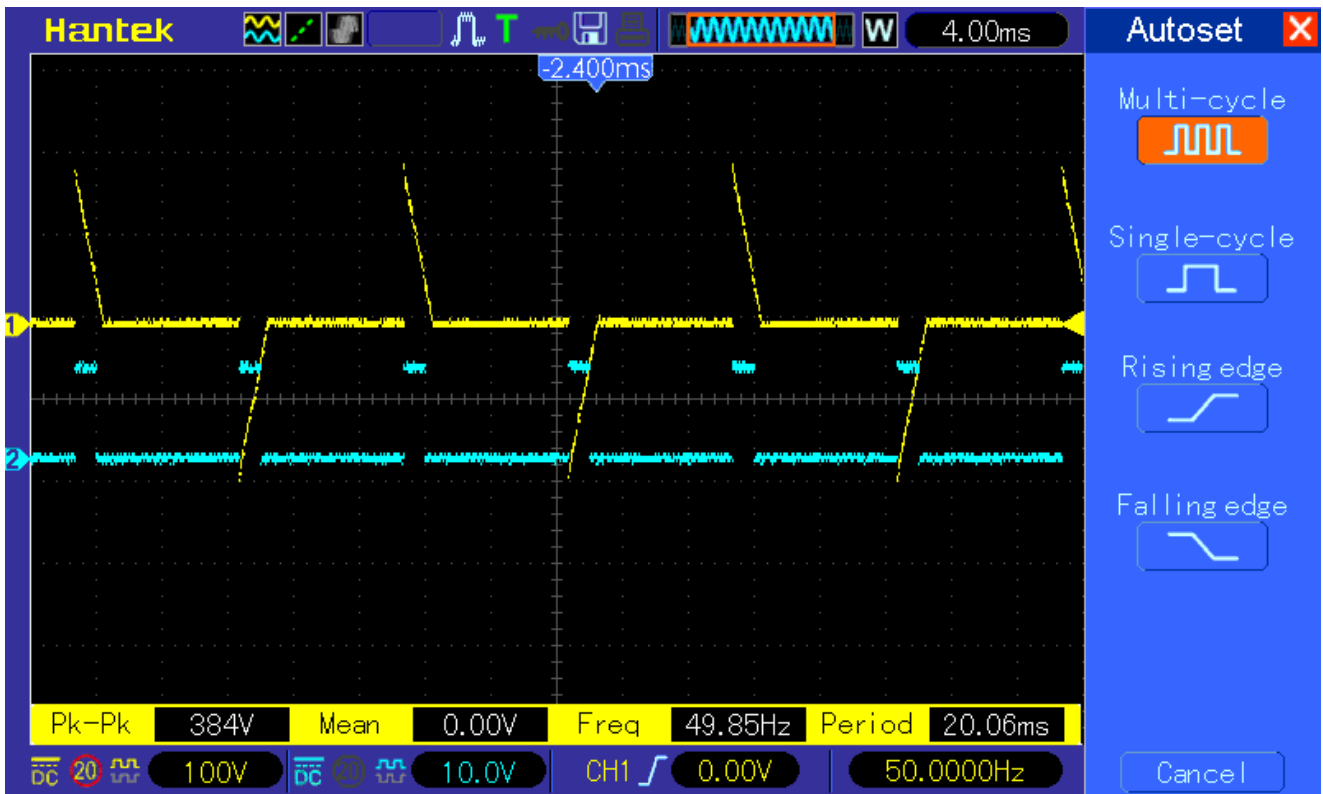

Figure 11: PWM at 20%
10. Click on tools tab, move mouse pointer to “Programmer: “Arduino as ISP””, under this click on “Arduino as ISP” to select. Refer to figure 11.